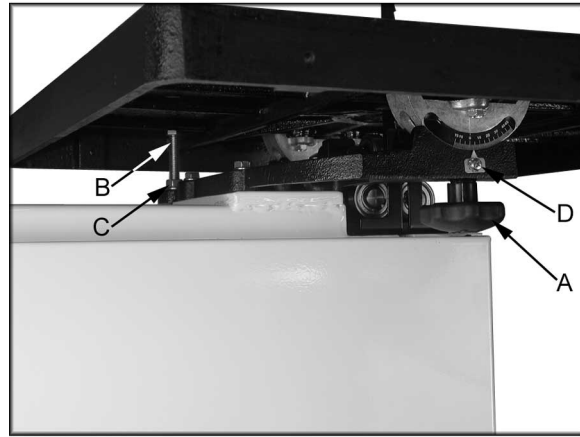

Figure 7
2. Loosen lock knobs (A, Figure 7) and tilt table until it rests against table stop bolt (B, Figure 7). Tighten knobs.
5. Loosen lock nut (C, Figure 7) and turn table stop bolt (B, Figure 7) until it contacts the table. Tighten the nut (C, Figure 7) to hold table stop in place. When tightening the nut hold the table stop bolt in place with a wrench to prevent movement.
6. If necessary, adjust pointer (D, Figure 7) to zero.